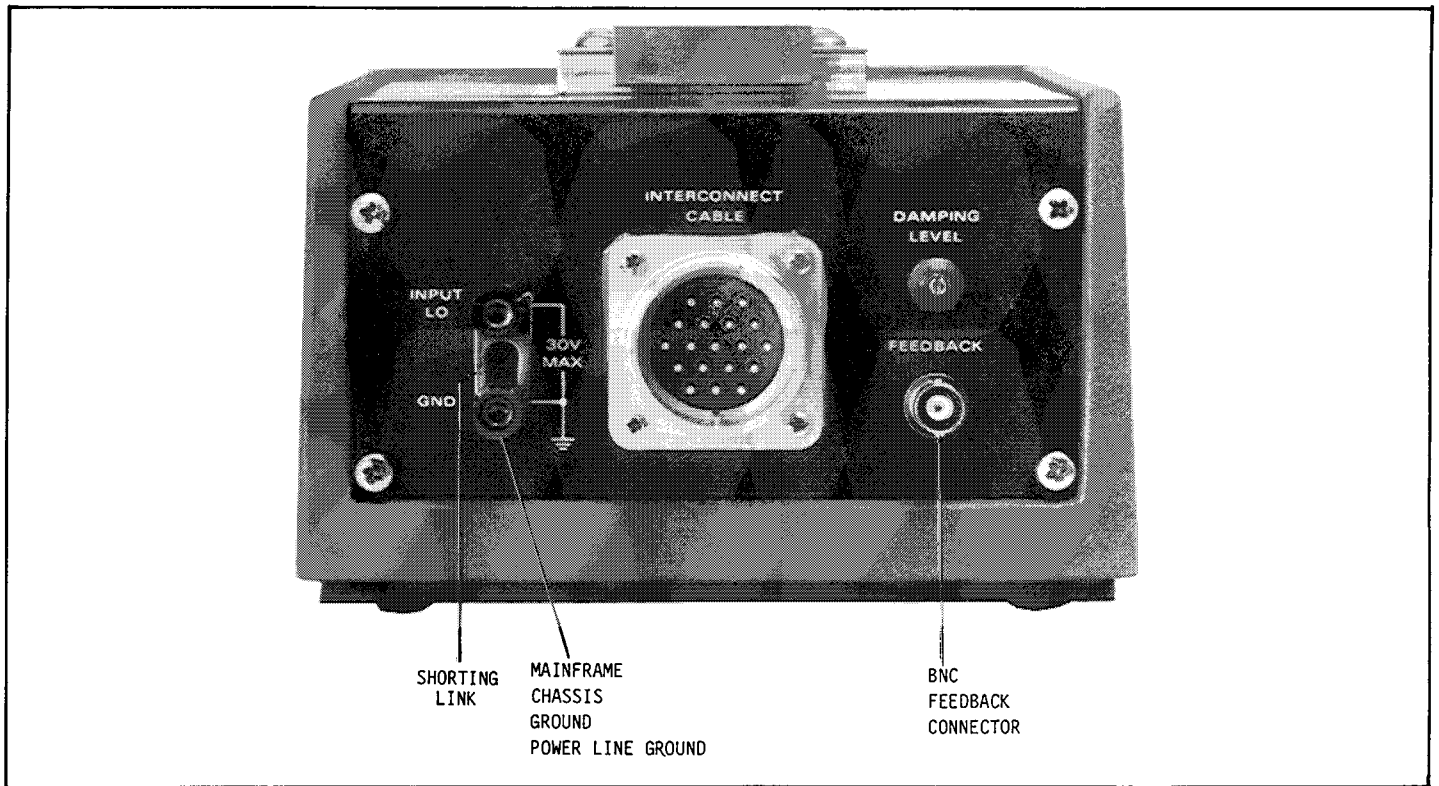

FIGURE 2-3. Remote Head Feedback and Ground Connections
2-20. A third analog output is provided at the remote head BNC FEEDBACK connector (see Figure 2-3). This is the highest performance analog output, providing the full capability of the remote head pre-amplifier. The dynamic range of this output is ± 11 V. It has low noise (2ppm rms) and the voltage linearity is typically within 5ppm (50 μ V in 10 volts). This output may be direct coupled to a V/F converter, which is often used to precisely digitize and integrate the signal. Also, resolution is more than adequate for a chart recorder. If automatic data gathering is necessary, the FEEDBACK output can also be connected to a digital multimeter with systems capability. A digital multimeter is available through KEITHLEY which has high accuracy and the capability of being interfaced with an IEEE Standard Interface Bus. See Model 6900 (6-1/2 digit) in Section 4 of this manual.
b. FEEDBACK Connector (Figure 2-3). This connector permits the use of external feedback components (i.e. a resistor for current measurements or a capacitor for charge measurements). The remote head analog output voltage is connected to the center contact of the feedback connector through a 1 kilohm resistor, a 1500pF capacitor is connected between the resistor and the FEEDBACK connector to signal common. This impedance must be considered if external feedback components are to be used. The outer shell of the FEEDBACK connector is at signal common (input low). Depressing the EXT FDBK function pushbutton on the mainframe front panel mechanically rejects the other function pushbuttons. This results in the preamplifier being in the feedback mode with all feedback components disconnected. Additional information concerning the use of the FEEDBACK connector is provided in the discussion on Analog Outputs in Paragraph 2-20.